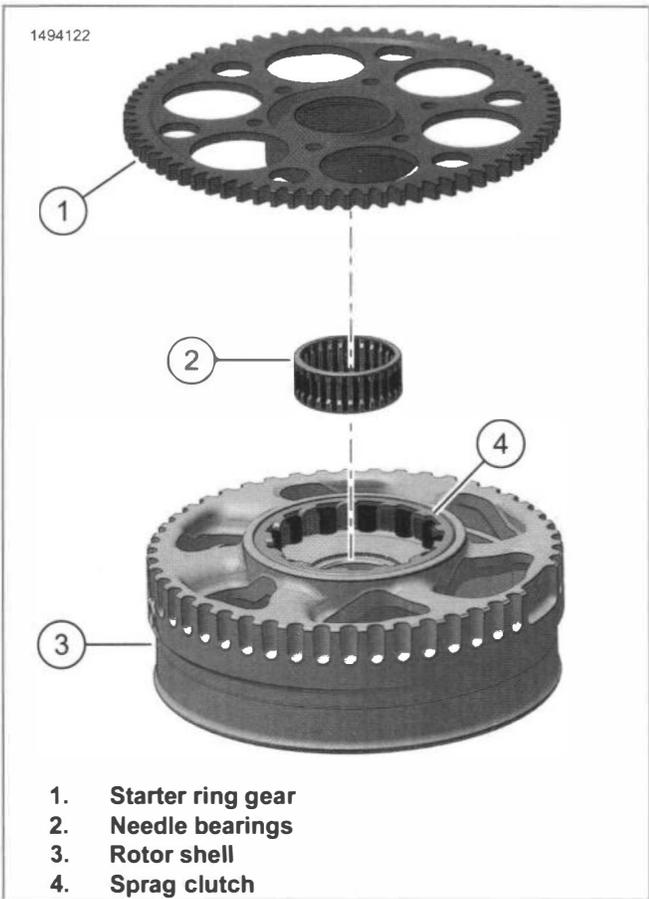

Figure 8-12. Rotor Assembly
1. See Figure 8-12. Separate rotor assembly.
- a. Place rotor assembly on a flat working area with the starter ring gear (1) facing upward.
- d. Remove the needle bearings assembly (2).